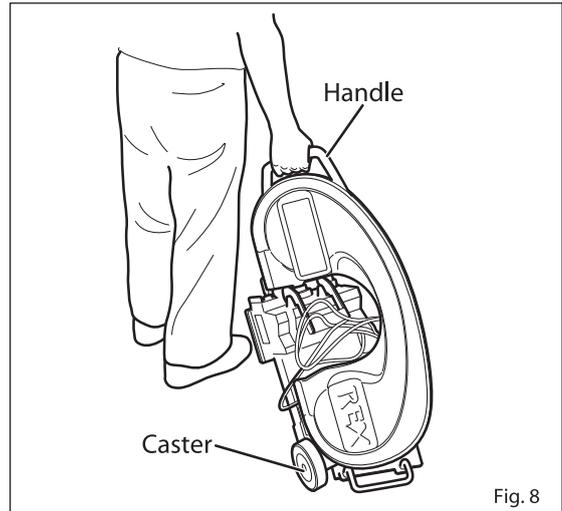

Fig. 8
1. Transport and Setting up (Figs. 8 & 9)
(1) The frame is locked before the product is packed. Hold up the handle. The casters will contact the ground, allowing you to roll the unit along. (Fig. 8)